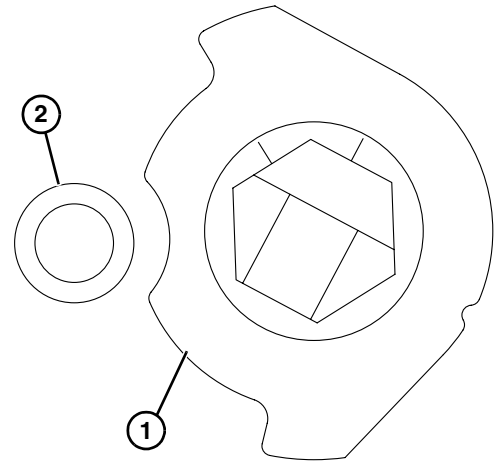

Figure 20
3. Hex shaft assembly will need to be rotated (**Figure 20**) for stop keys (**Figure 20, item 1**) to pass by the frame stops (**Figure 20, item 2**).